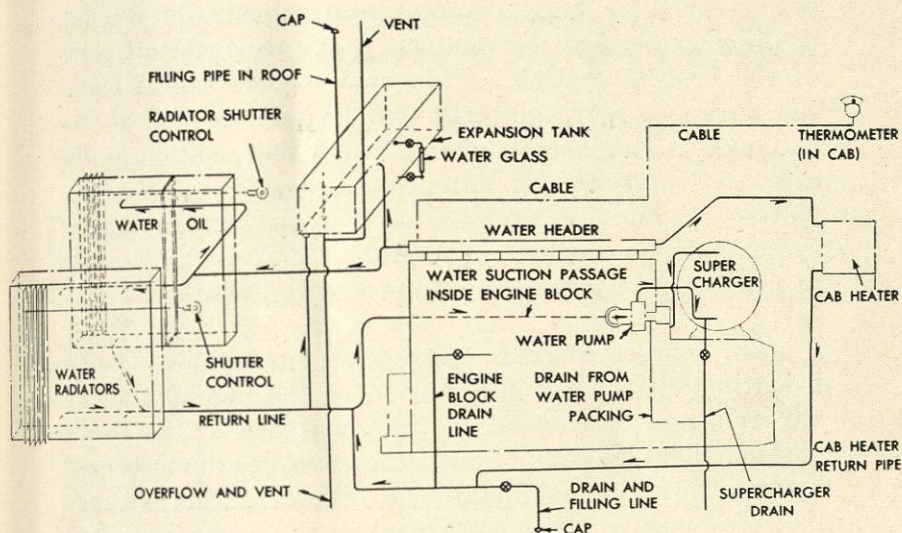

Fig. 14
38. CHECK ENGINE COOLING WATER SUPPLY. Figure 14 is a schematic diagram of the engine cooling system of a 1000 horsepower switcher. The water simply circulates around and around. It is heated as it passes through the engine block and cooled as it passes through the radiators. There is an expansion tank at the top of the engine compartment just back of the radiators. This expansion tank takes care of fluctuations in the height of water as the temperature of the water changes. The system should be filled so that the water is within an inch or an inch and a half of the top of the expansion tank as shown by the water glass on this tank.